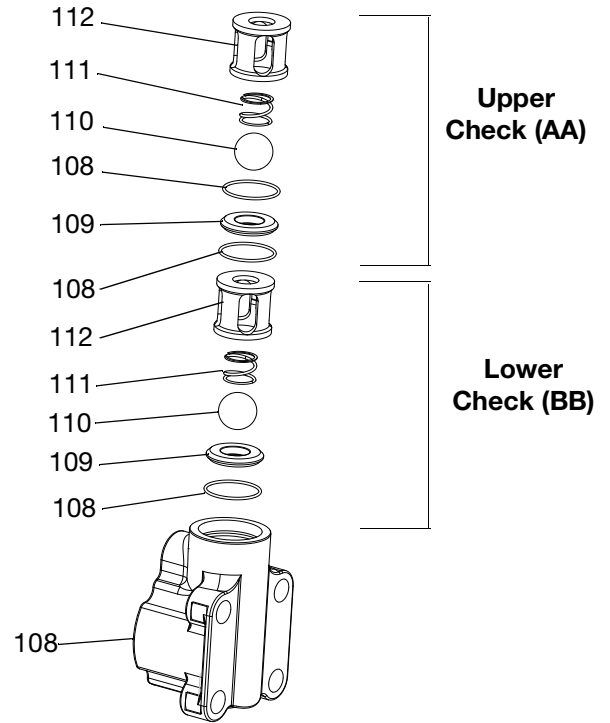

FIG. 9
4. Remove upper check (CC) ball cage (112), check ball spring (111), ball (110), O-ring (108) and carbide seat (109).
5. Press lower ball (110) off seat (109) from fluid inlet and drain the inlet housing (106).
6. Remove lower check (DD) o-ring (108), ball cage (112), check ball spring (111), ball (110), carbide seat (109), and o-ring (108). See FIG. 9.